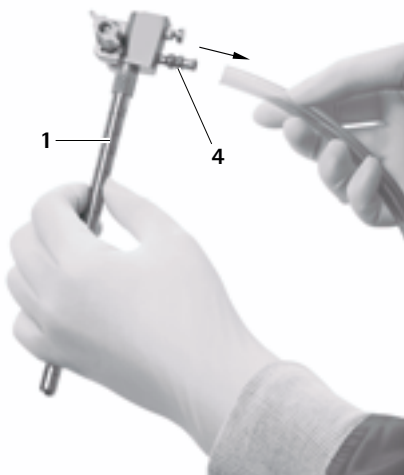

Fig. 12
- Remove tube from irrigation connector **4**, see Fig. 12.